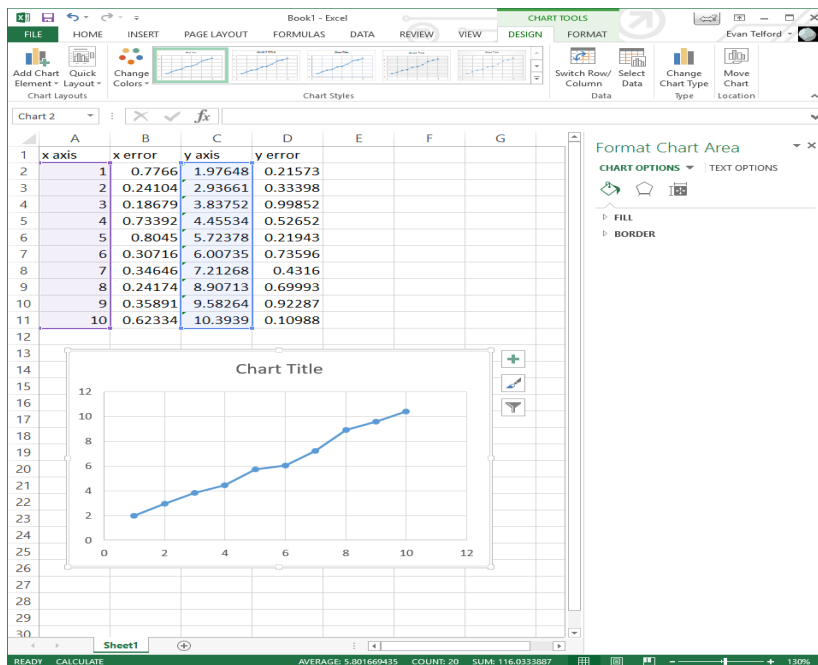

Figure 6: Selecting x and y data and creating a lined scatter plot in excel.
- Choose the subheading “insert”, then “Scatter”, then “Scatter with straight lines and markers”. Now your x and y data should be plotted without error bars (see figure 6).